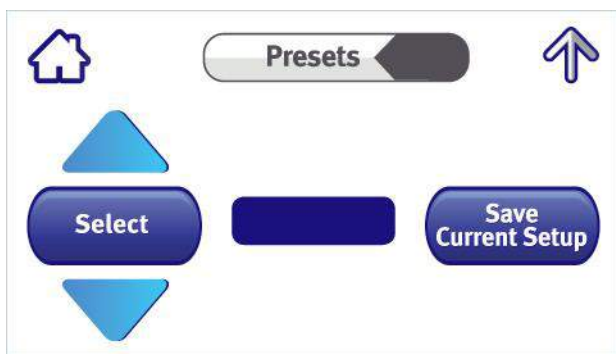

FIGURE 4-5: PRESETS SCREEN
1. Press **Presets** in the main menu. The Presets screen (Figure 4-5) appears.